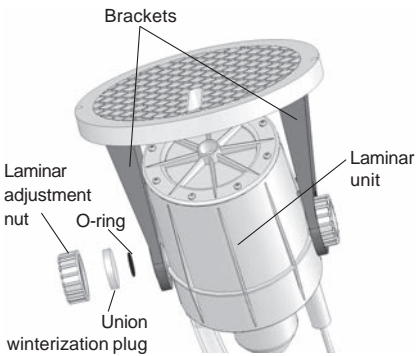
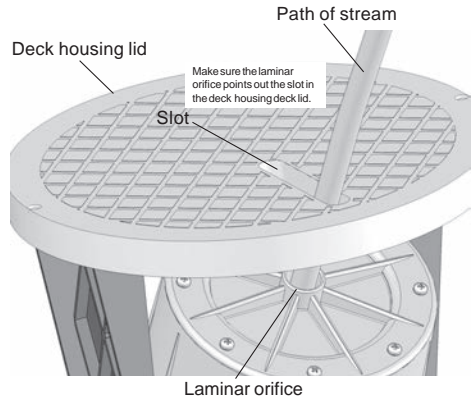

Figure 3.
Figure 4.
1. Carefully spread the brackets and slide the laminar unit into the holes in the brackets (Figure 3), making sure the Laminar orifice is pointed out the top slot in the deck housing lid (Figure 4).